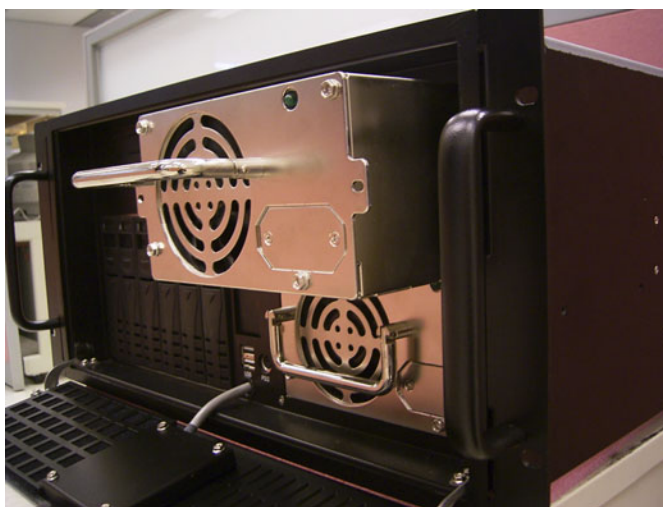
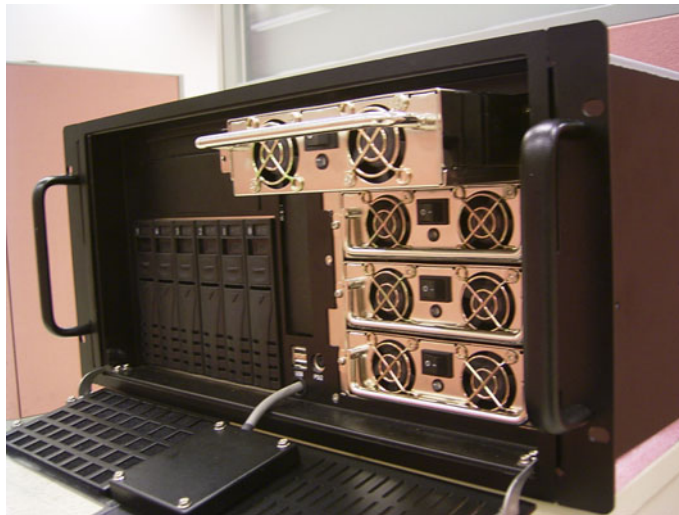

Figure 3.12: Replacing the module of 460W redundant power
Figure 3.13: Replacing the module of 570W / 810W redundant power
2. Loosen the screw on the failed module and then gently pull the module out by the handle (see Figure 3.12 and Figure 3.13).